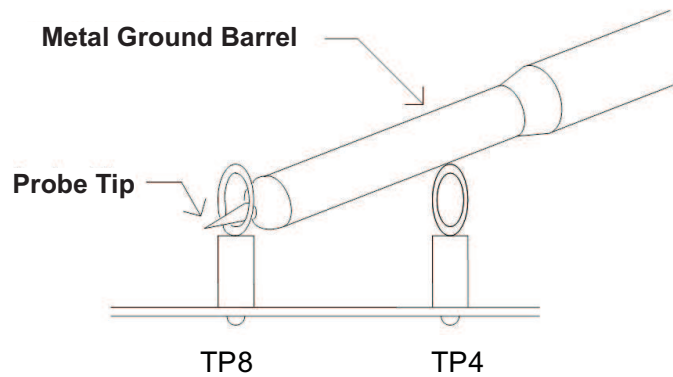

Figure 2. Tip and Barrel Measurement for Output Voltage Ripple
For output ripple measurements, TP8 and TP4 allow a user to limit the ground loop area by using the tip and barrel measurement technique shown in Figure 2.
For output ripple measurements, TP7 and TP6 allow a user to limit the ground loop area by using the tip and barrel measurement technique shown in Figure 2.
5. Connect the oscilloscope probe to TP8 and TP4 for V_{OUT1} , or TP7 and TP6 for V_{OUT2} as shown in Figure 2.